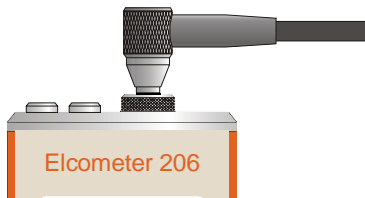

Figure 5. Transducer pressed against probe-disc
4. Press the transducer against the probe-disc, making sure that the transducer is flat against the surface (Figure 5). The display should show some thickness value, and nearly all the bars of the stability indicator should be illuminated.